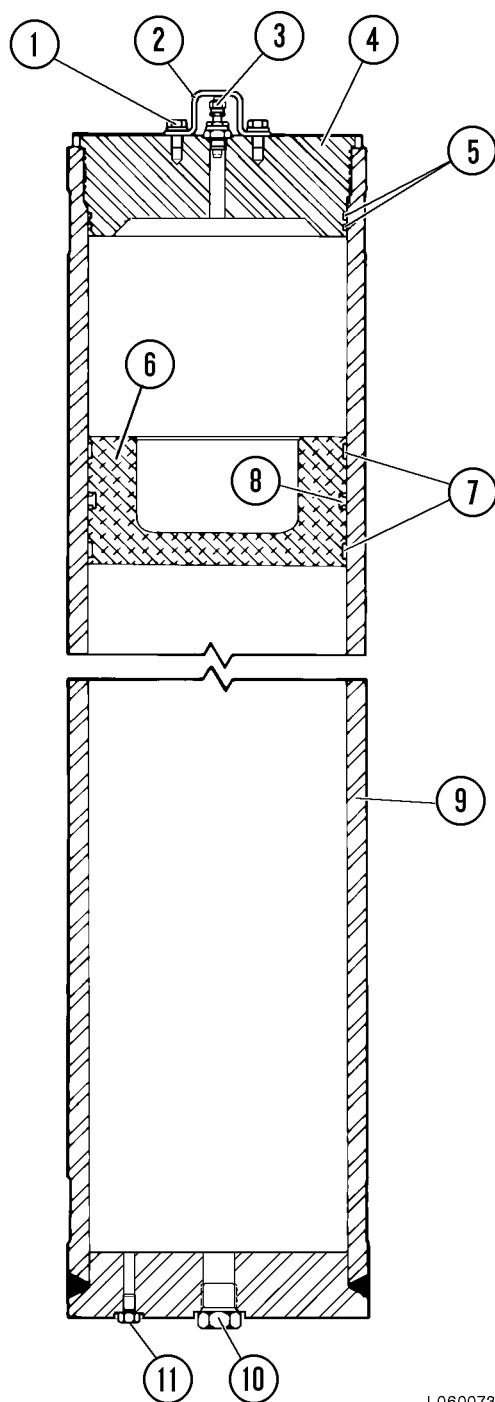

FIGURE 6-4. ACCUMULATOR ASSEMBLY
1. Remove charging valve (3, Figure 6-4).
2. Remove gland (4).